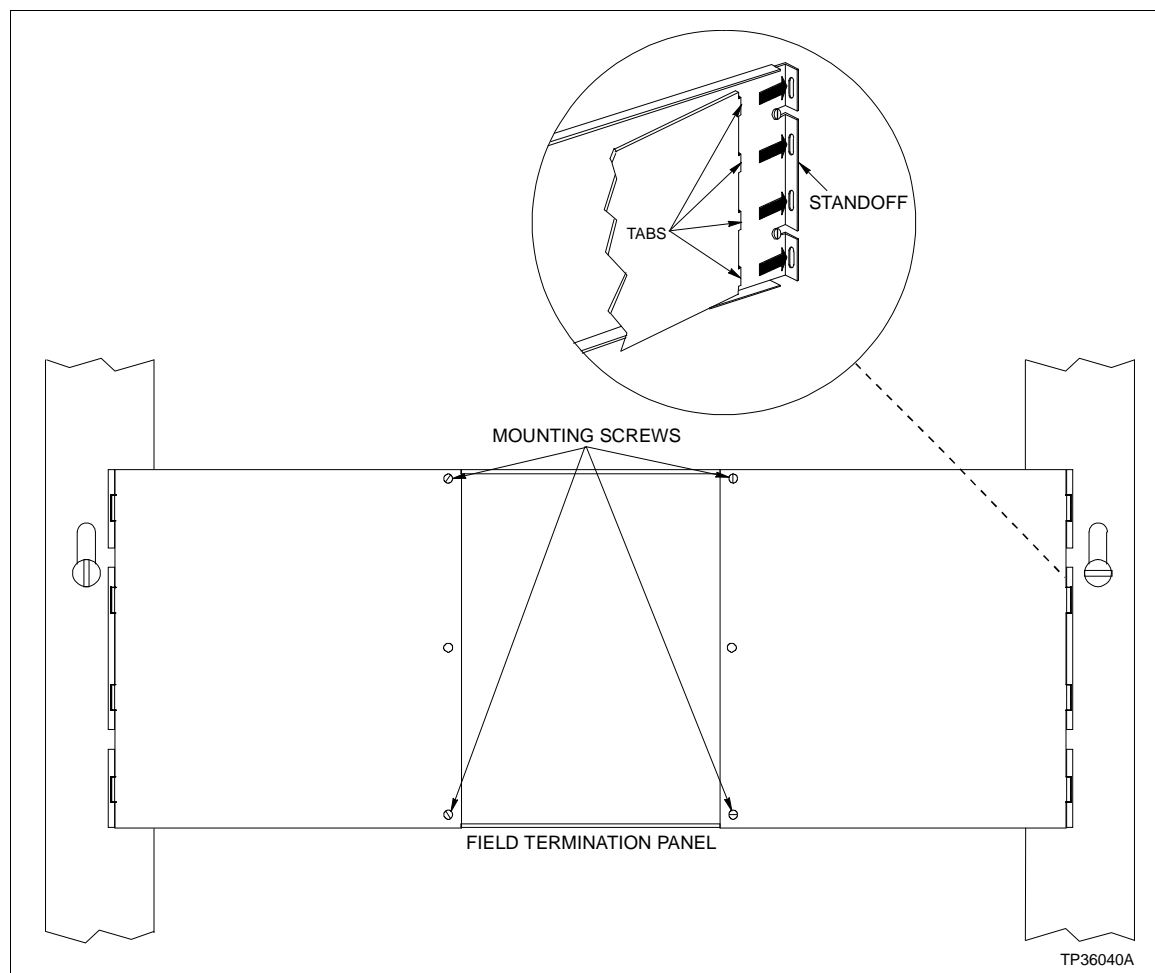

Figure 2-5. Mounting and Securing the Termination Unit
The termination unit is ready for installation if the dipshunts are properly installed and configured, and the relays and fuses are in place. The termination unit mounts on a standard NFTP01 Field Termination Panel as shown in Figure 2-5.
2. Insert the tabs of the circuit board into the proper slots of the termination panel standoff as shown in Figure 2-5 and slide the circuit board into position.
3. Secure the termination unit circuit board to the field termination panel with two number 10 self-tapping screws (Figure 2-5).